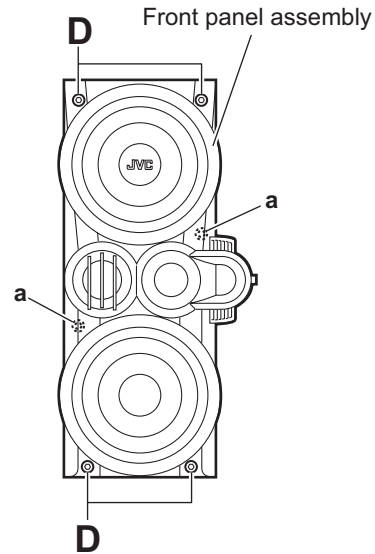

Fig.3
### 3.4.3 Removing the front panel assembly (See Figs.3 and 4)
- (1) Remove the four screws **D** attaching the front panel assembly. (See Fig.3.)
- (2) Release the two joints **a**. (See Fig.3.)
When removing the front panel assembly from the speaker main body, do not break or damage them that are glued at the joints **a**. (See Fig.3.)